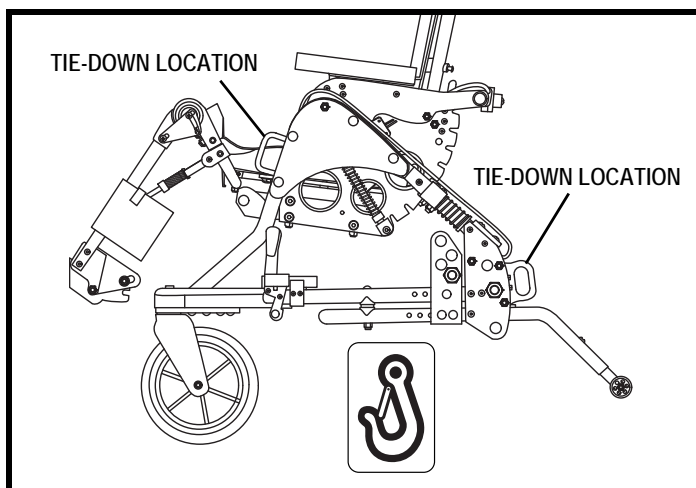

Figure 16. The Kids UP Tie-down Locations
- For approved transit tie-down locations and location of the pelvic belt attachment pin, see figures 16 and 17.